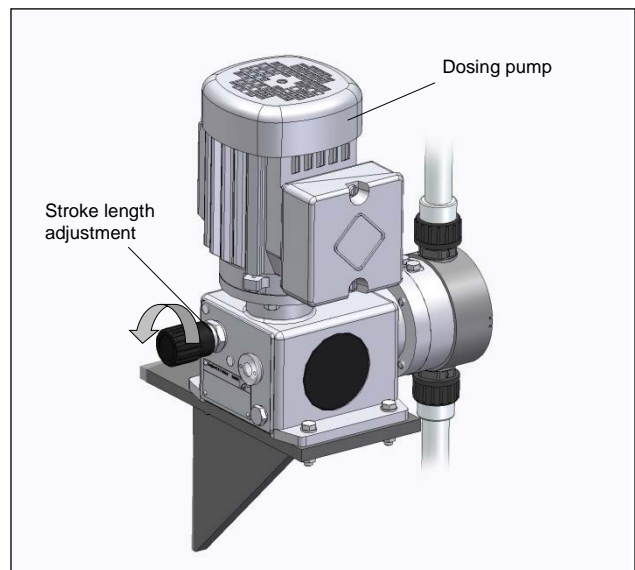

Fig. 14
- Start-up pump / system; increase delivery rate of the pump slowly by adjusting the stroke frequency and / or the stroke length up to the maximum value (see Fig. 14).